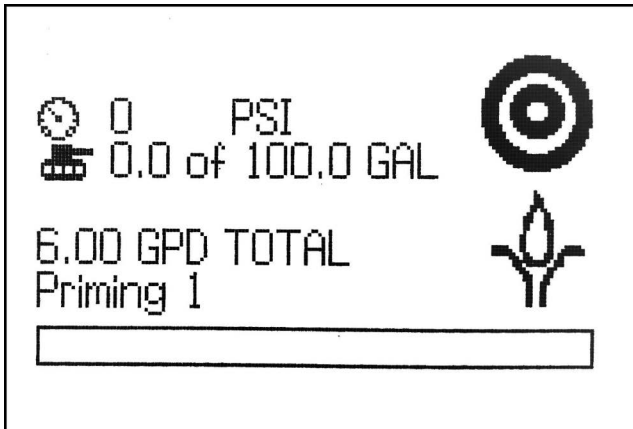

FIG. 24: Multiple Point Injection Priming screen
2. The pump will continue to run starting with the first active solenoid. (See FIG. 24.) The active solenoid will be displayed on the screen.